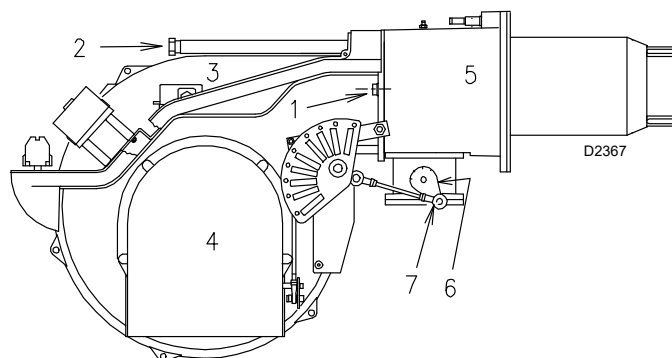

Fig. 18
- reassemble the burner on the slide bars 3)(Fig. 18) at about 100 mm from the pipe coupling 4);
- insert the cables of the probe and electrode, then slide the burner as far as the pipe coupling, the burner in the position indicated in Fig. 18;